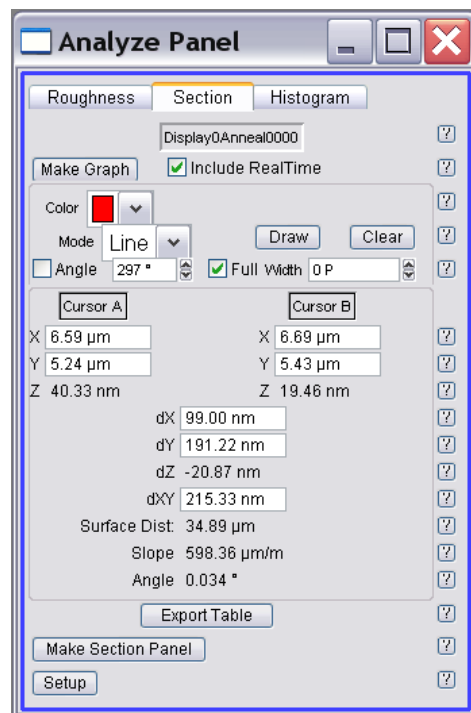

Figure 7.6.1: Section tab of the Analyze panel.
To measure a section line analysis during a Real Time image acquisition, open the Analyze panel (Figure 7.6.1).
- ✓ Select Full Width checkbox for sections to traverse to the edge of scan areas along the line vector drawn (figure 7.6.1).